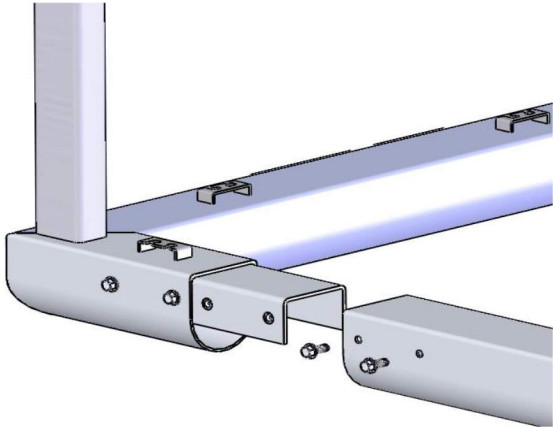
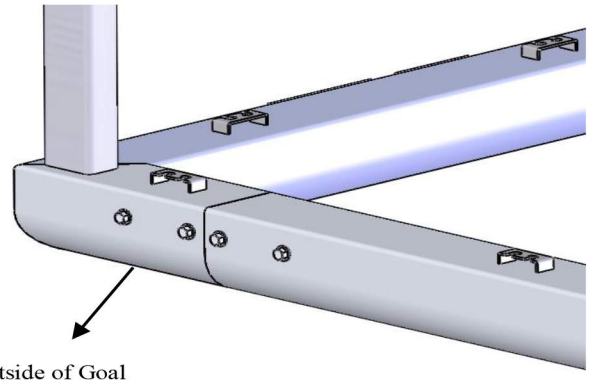

Figure 3A
Figure 3B
3. Connect the end frames to the crossbar by sliding the crossbar over the channel (Fig. 3A), confirm all net clips are facing toward the outside of the goal. Use (2) 3/8" – 16 x 1" serrated hex bolts to attach the crossbar to each end frame (Fig. 3B). Tighten all hardware.